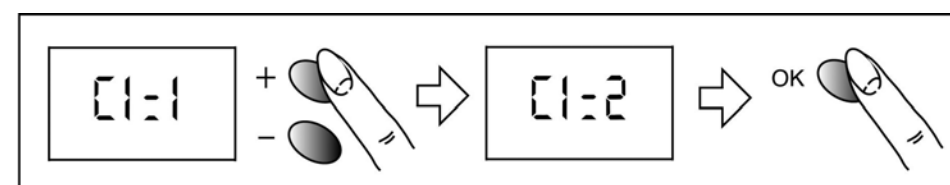

Fig.9
1. To change the configuration, turn the dial to the position (see Table 4 and Fig.9)